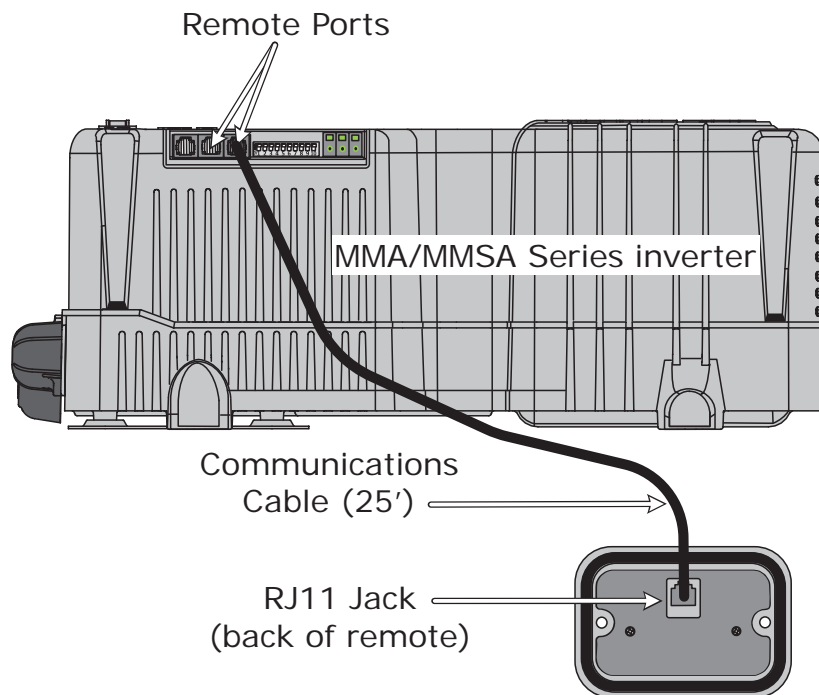

Figure 5, Communication Cable Connections
One end of the communication cable is connected to the RJ11 jack on the rear of the MM-C remote monitor, and the other end is connected to one of the remote ports (blue) on Magnum's MMA/MMSA inverters (see Figure 5).
3. Connect the communications cable to the RJ11 jack on the back of the remote monitor (Figure 5).